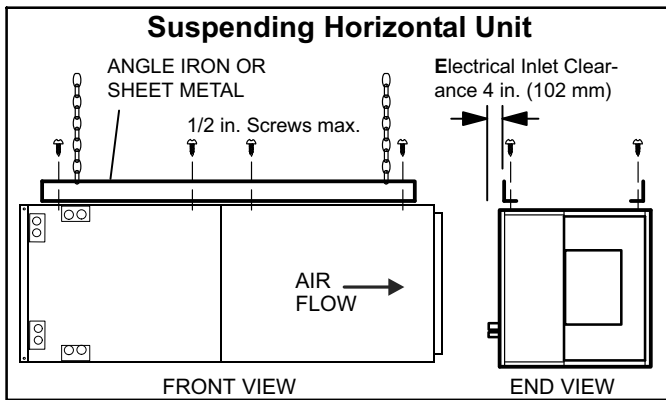

FIGURE 8
6. If the unit is suspended, the entire length of the cabinet must be supported. If you use a chain or strap, use a piece of angle iron or sheet metal attached to the unit (either above or below) to support the length of the cabinet. Use securing screws no longer than 1/2 inch to avoid damaging the coil or filter. See figure 8. Use sheet metal screws to connect the return and supply air plenums as required.